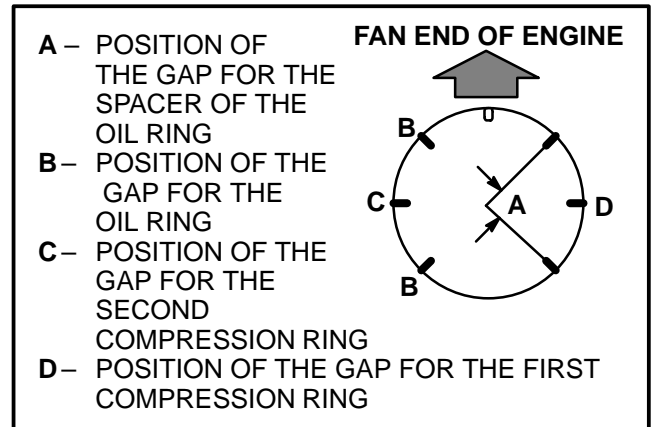
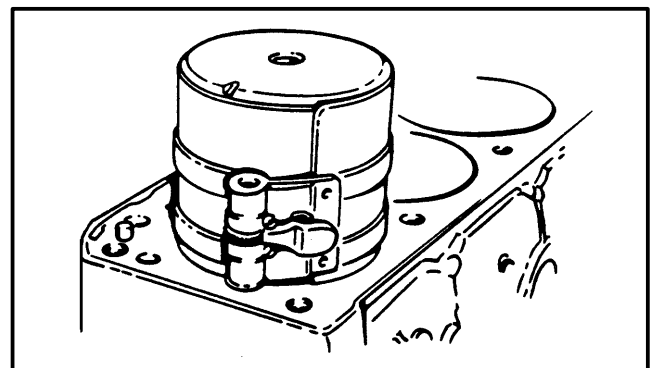

FIGURE 31. ARRANGEMENT OF THE PISTON RINGS ON THE PISTON
FIGURE 32. INSTALL A RING COMPRESSOR
2. Check the clearances of the piston rings as described in "Piston Rings". Install the piston rings on the piston as shown in FIGURE 31.
1. Lubricate the assembly with engine oil during installation. Arrange the piston rings on the piston as shown in FIGURE 31. Install a ring compressor on the piston as shown in FIGURE 32.